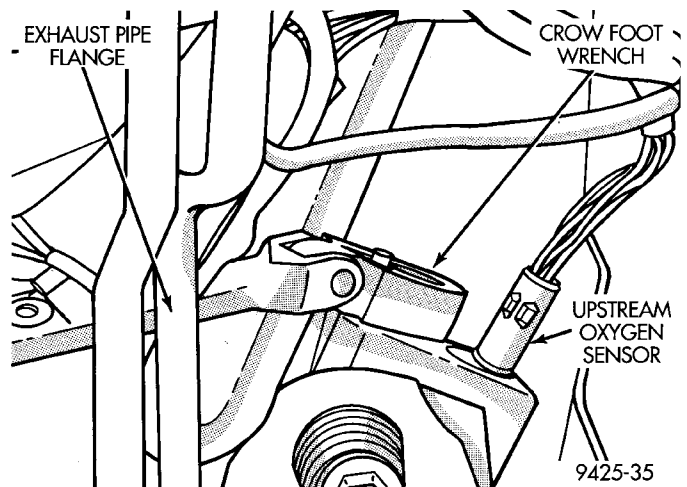

Fig. 100 Upstream Heated Oxygen Sensor Removal/Installation
- (1) Raise and support vehicle.
- (2) Unplug sensor connector.
- (3) Remove sensor using an oxygen sensor crow foot wrench such as Snap-On tool YA8875 or equivalent (Fig. 100).
- (4) After removing the sensor, the exhaust manifold threads must be cleaned with an 18 mm X 1.5 + 6E tap. If reusing the original sensor, coat the sensor threads with an anti-seize compound such as Loctite® 771-64 or equivalent.
- (1) Install sensor using an oxygen sensor crow foot wrench such as Snap-On tool YA8875 or equivalent (Fig. 100). Tighten the sensor to 28 N·m (20 ft. lbs.) torque.
- (2) Plug sensor connector.
- (3) Lower vehicle.